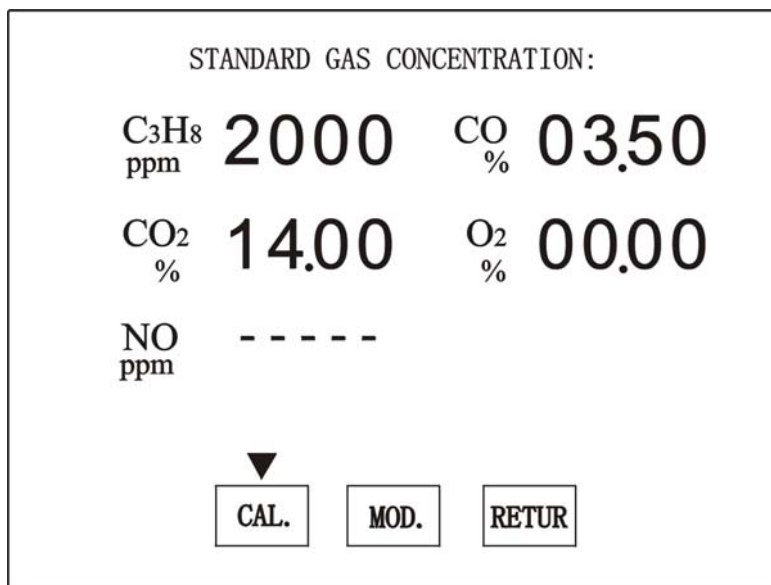

Figure 6. Setting interface of “Standard Gas Concentration”
- c) Press “▲” or “▼” to move the cursor to item “1. HC, CO, CO₂ Calibration”, press K key to enter the setting interface of “Standard Gas Concentration” (Fig. 6).
c) Press “▲” or “▼” to move the cursor to “NO Calibration”. Press K to enter the setting interface of “Standard Gas Concentration” as shown in Fig. 6.